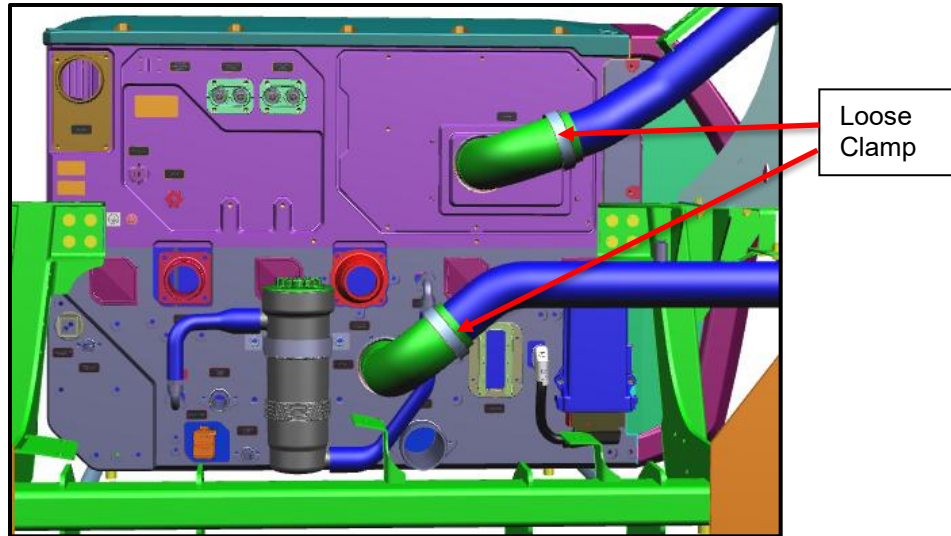

Figure 4: FC outlet location reference
10. Loosen the clamp on the elbow on the outlet of the FC air intake tube and FC vent tube. See figure 4.